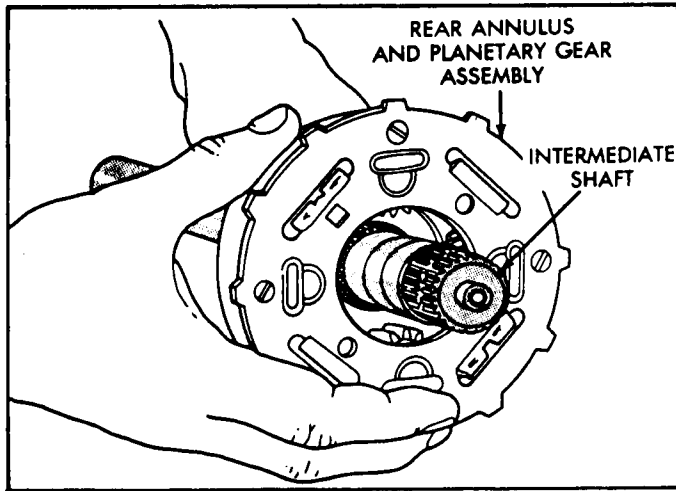

Figure 74
6. Install assembled rear planetary and ring gear onto intermediate shaft, as shown in Figure 74.